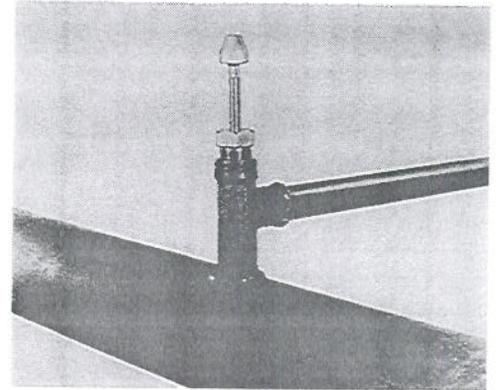

FIGURE 7
5. If installing a $\frac{3}{4}$ " , 1" or 1 $\frac{1}{4}$ " Service Tee or Valve Tee the H-17615 Center Locating Punch may be used to punch mark the pipe in the center of the Tee to aid in starting the drill. Screw the Center Locating Punch into the Tee and strike the head of the pin a solid blow. **Figure 7.**